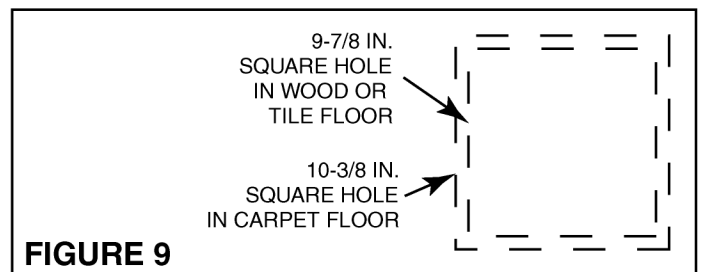

FIGURE 9
- 6) Wood or tile floor floors: Install finished floor (tile or wood) to edge of concrete hole over floor box leaving a 9-7/8 in. square opening in finished floor (See Figure 9).
- 7) Carpeted floors: For carpet used in offices-approximately 1/4" thick. (Not for use with thick carpet or foam padding). Cut opening in carpet to within 1/4" of edge of concrete hole over floor box leaving a 10-3/8 in. square hole in carpet (See Figure 9).